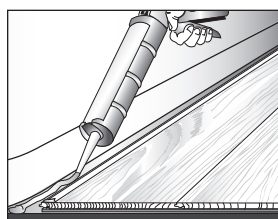

Figure 19
- All perimeter expansion zones must be completely filled with 100% silicone caulk following the manufacturer's recommendations. When applying caulk, it is helpful to first apply a strip of masking tape parallel to and approximately 1/32" (.79 mm) from the edge of the Hydropel (Fig. 19). Then fill the expansion zone with caulk, remove the excess with a plastic scraper or putty knife and remove the tape.